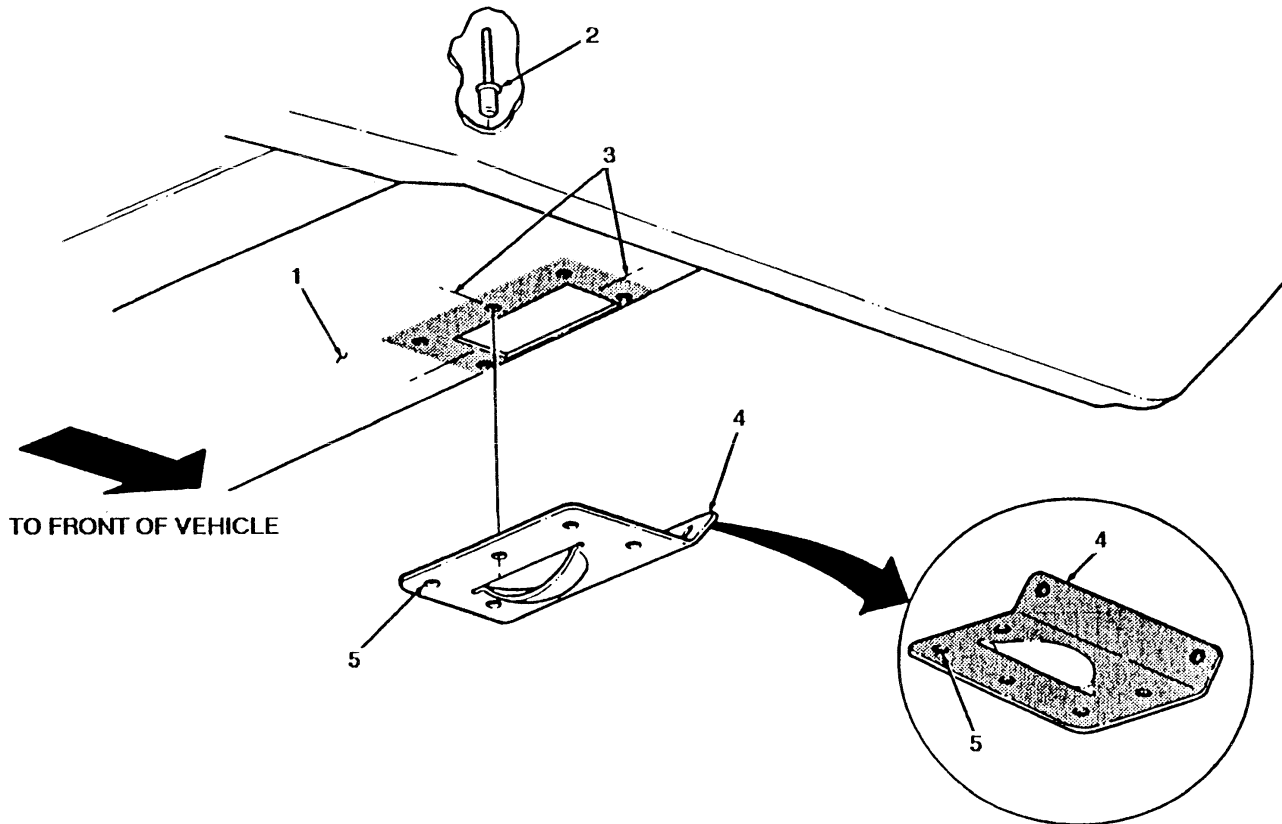

FIGURE 3-12
- (3) Mark underside of floor panel (1) with two lines (3) centered over damaged floor drain area. (see figure 3-12)
- (4) Position P/N 12447129 drain hole plate (4) to the underside of floor panel (1). Bend or shape drain hole plate (4) to the contour of floor panel (1). (see figure 3-12)
- (5) Using drain hole plate (4) as a template, transfer seven hole locations (5) onto floor panel (1). Remove drain hole plate (4).
- (6) Using hole locations (5) marked in step 5., drill seven 0.187-inch diameter holes through underside of floor panel (1).
- (7) Enlarge seven template holes (5) to 0.187-inch diameter in drain hole plate (4).
- (8) Apply approximately 0.125-inch thickness of P/N 89616 Silaprene adhesive sealant to shaded mating surface on drain hole plate (4).
- (9) Apply approximately 0.125-inch thickness of P/N 89616 Silaprene adhesive sealant to shaded mating surface on underside of floor panel (1).
- (10) Position drain hole plate (4) to underside of floor panel (1).
- (11) Install seven NSN 5320-01-271-6357 rivets (2) through floor panel (1) and drain hole plate (4).
- (12) Remove adhesive residue and clean edges on floor panel (1) and drain hole plate (4).
- (13) Spot paint floor panel (1) and drain hole plate (4). (Refer to TM 43-0139.)